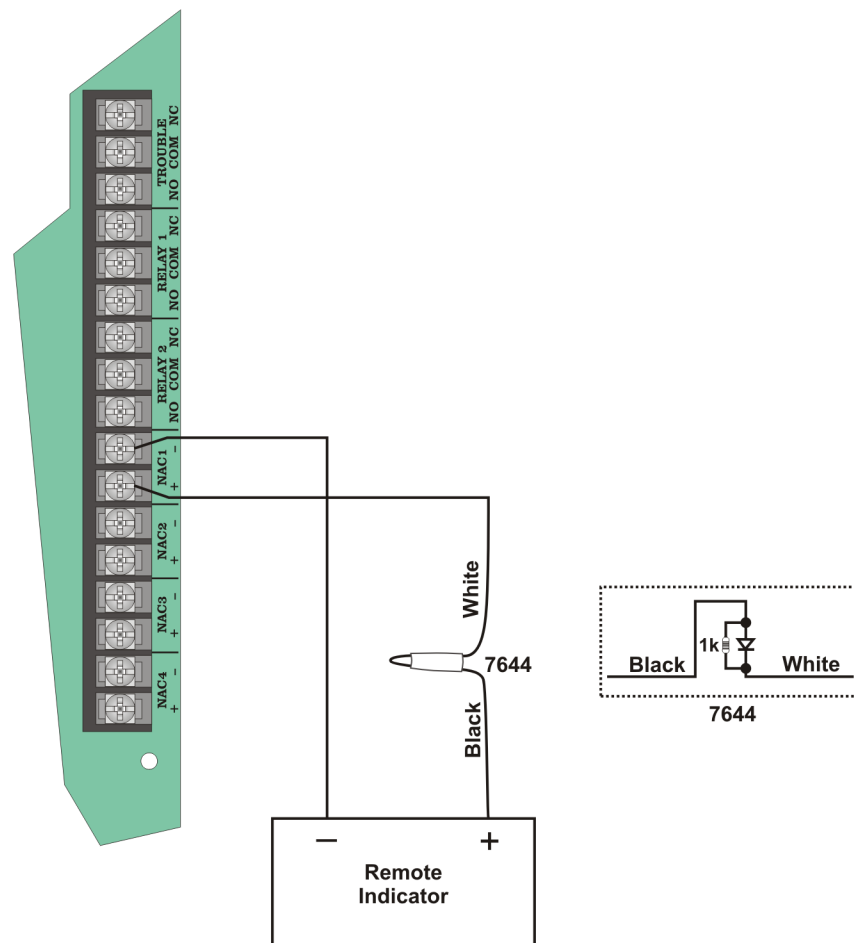

Figure 4-34 Polarity Reversal Connection Using the 7644
1. Wire the 7644 to the control panel as shown in Figure 4-34. Do not install an EOL resistor on the terminals of the NAC circuit used.